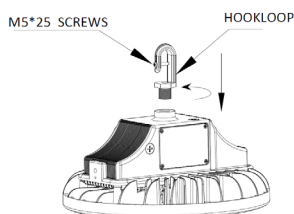

FIG. 2
2. Install the hook on fixture. See Fig. 2